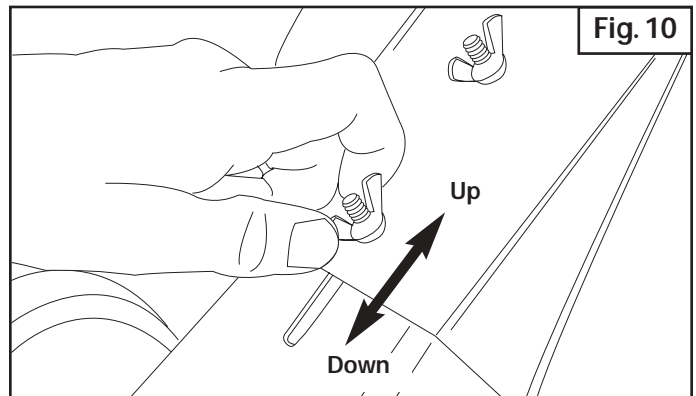

Fig. 10
2. Loosen (do not remove) the two wing nuts on the tine guard (Fig. 10).